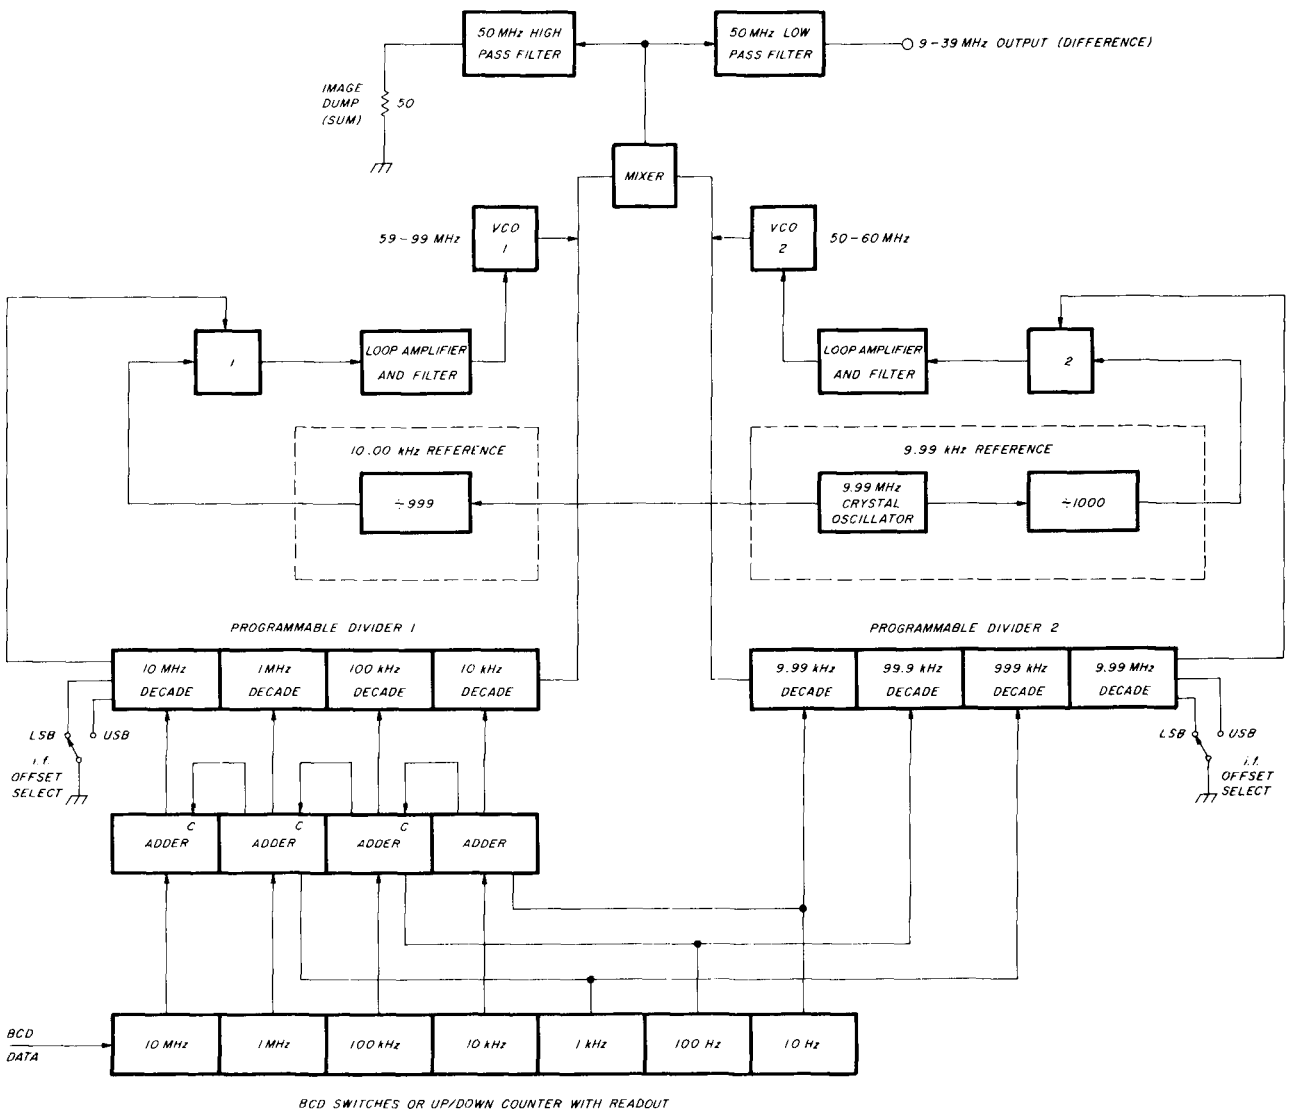

fig. 2. Functional block diagram of a high frequency synthesizer capable of 10-Hz steps, with a 10-kHz reference.
When we found out how well our antenna was performing, we decided to erect three more of similar type. We had enough material to erect three elements centered on the Caribbean/South America region, four elements on Japan, and four elements on the VK/ZL/Europe long path (fig. 2). By now we knew how to go about constructing the antennas, and the three new ones only took another day to erect. Upon trying them out we found that all three new antennas performed very well also.
Fig. 2 is a functional block diagram of a two-part synthesizer, offering 10-Hz steps with the advantages of a 10 kHz reference frequency. Note the use of two reference frequencies, 10.000 kHz and 9.990 kHz. The output frequency is actually the difference frequency between two phase-locked oscillators. To change the output frequency by 10 Hz, we move the first oscillator 10.00 kHz; next, we move oscillator number two 9.99 kHz in the same direction. The difference between the oscillators' frequencies has only changed 10 Hz.
fig. 4. As seen in fig. 2, the data from the three most significant digits is added to the data from the fourth through the sixth significant digits. This number is then the final number which is used to control the programmable divider number one. (B) shows the same divider calculation, except for USB instead of LSB. The divider then controls vco 1 in 10 kHz steps.